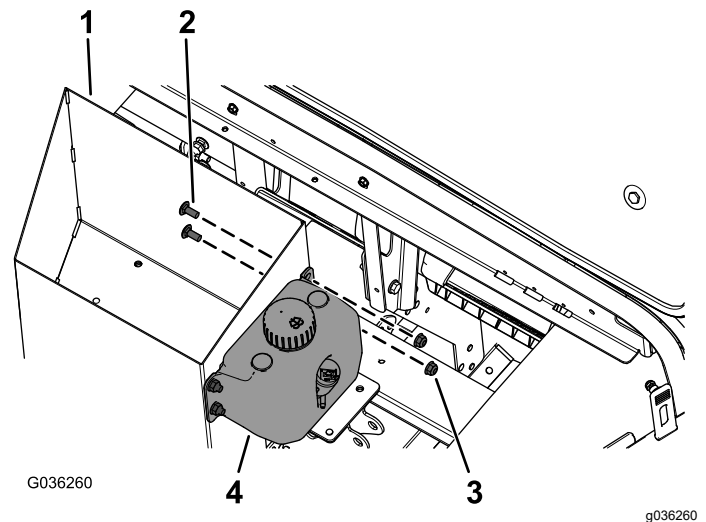

Figure 1
1. Install the washer-fluid tank to the storage box with the 4 flange-head screws (1/4 x 5/8 inch) and the 4 locknuts (1/4 inch) as shown in Figure 1.